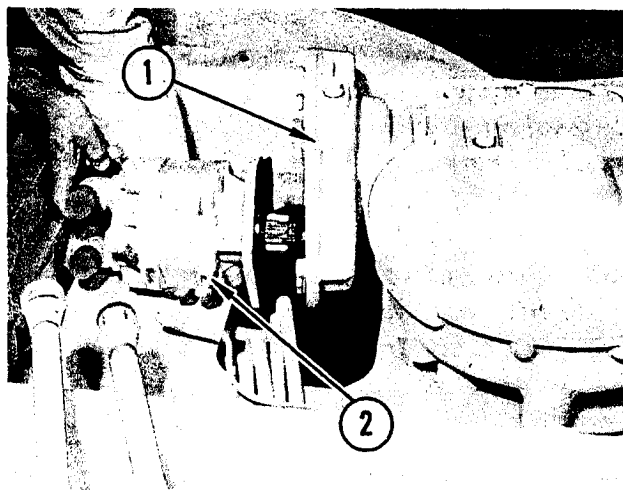

FIGURE 11. CIRCLE REVERSE HYDRAULIC MOTOR
Remove two capscrews and lockwashers retaining hydraulic motor to circle reverse gear housing (1) and remove hydraulic motor (2), Figure 11. Servicing the motor will be covered in the hydraulic section of this manual.